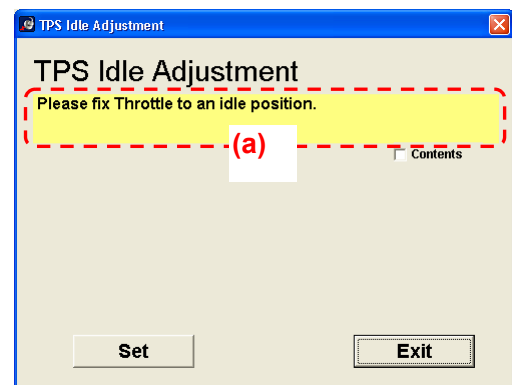

Fig. 9-4-2
- (2) Select this command from the menu bar and the TPS idle setting dialog box will appear. The second line of dialog box is the information box. (Fig. 9-4-2 (a))